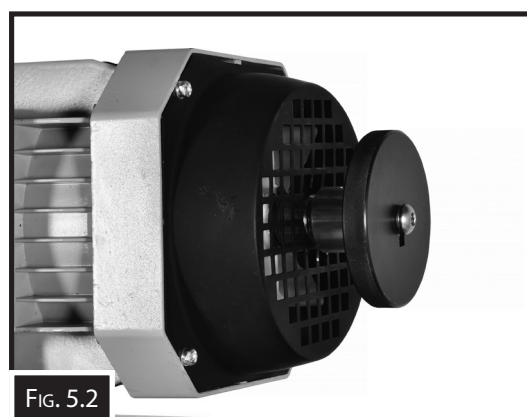

FIG. 5.2
2. Using the hand wheel on the back of the motor, lower the top die to the lowest part of the stroke. (Fig. 5.2)